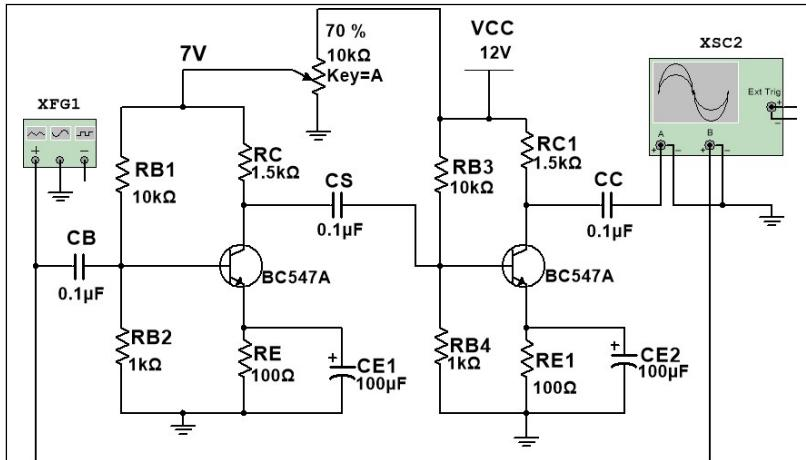

Figure 6.1. RC Coupled Common Emitter Amplifier
In real life applications, single stage amplifier circuits, such as common emitter (CE), common base (CB) and common collector amplifiers are rarely used alone. For most of the practical applications at least two or more than two stages are connected in cascade combination. Cascading amplifiers means feeding (coupling) the output of one amplifier to the input of another amplifier. Cascaded amplifiers develop an output voltage larger than either stage alone. The overall gain of the cascaded amplifiers (called system gain) is the product of each individual stage gain. Coupling capacitor is used to connect output of first stage to input of second stage. Circuit shown in *Figure 6.1* is an example of capacitor coupled CE cascade amplifier.
- 1) Connect complete circuit of RC coupled CE amplifier as shown in **Figure 6.1**, i.e., the output (Collector) of first stage to the input of second stage (Base) via coupling capacitor **C_s**.